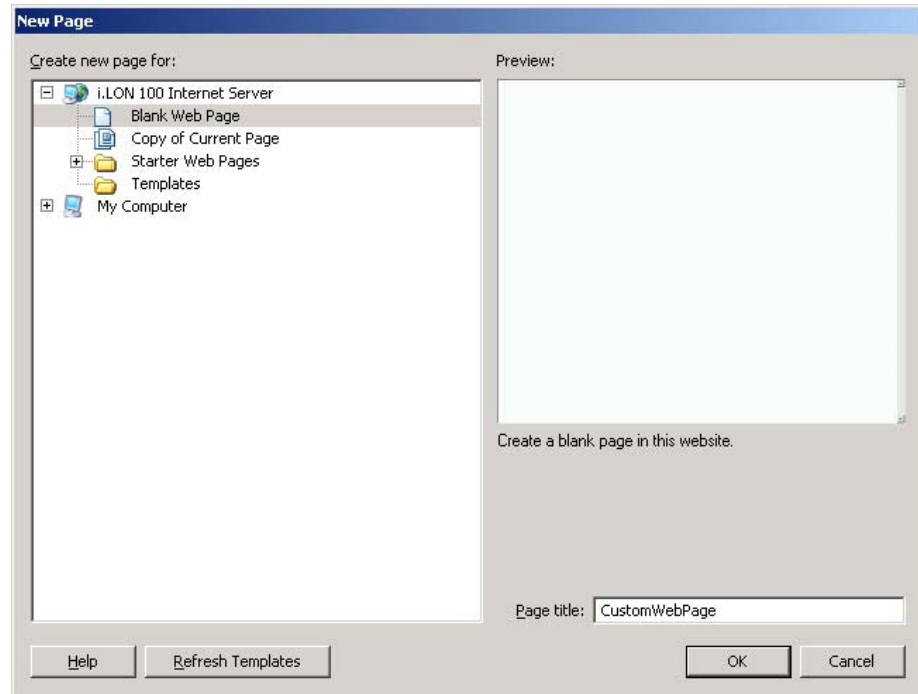

Figure 13.4 New Page Dialog
8. Click the **New Page** button on the Contribute toolbar. The window shown in Figure 13.4 opens.